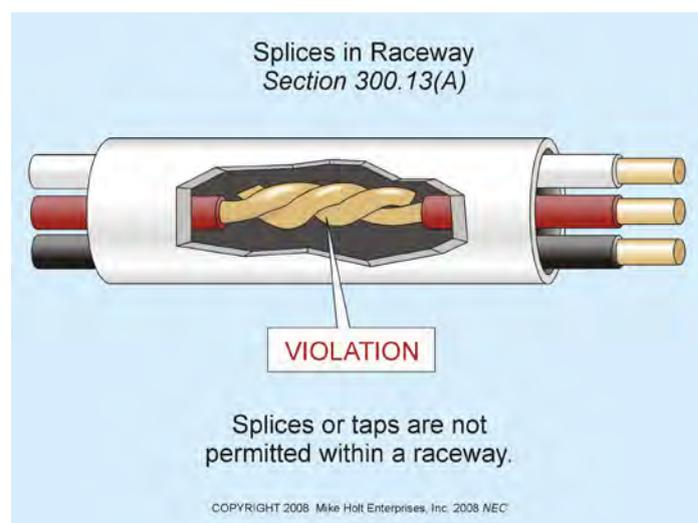

Figure 300-25
(A) Conductor Splices. Conductors in raceways must be continuous between all points of the system, which means splices must not be made in raceways, except as permitted by 376.56, 378.56, 384.56, 386.56, or 388.56. See 300.15. **Figure 300-25**